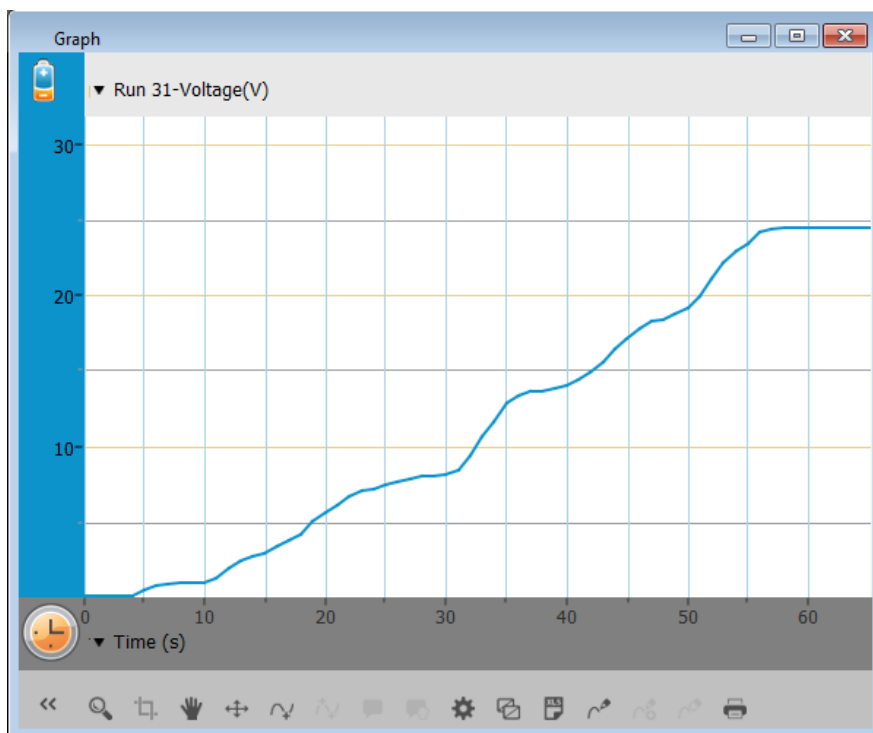

Figure 1
5. See expected result - figure 1.